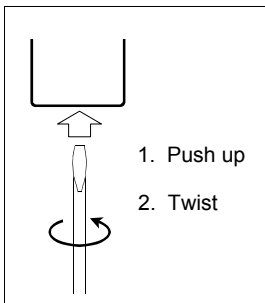

Fig. 2. Opening the case
- Remove the cover.** Remove the GEMC-BSLC-1PT point module cover by inserting a small screwdriver into the slot at the bottom and twisting while applying upward pressure. See Fig. 2.